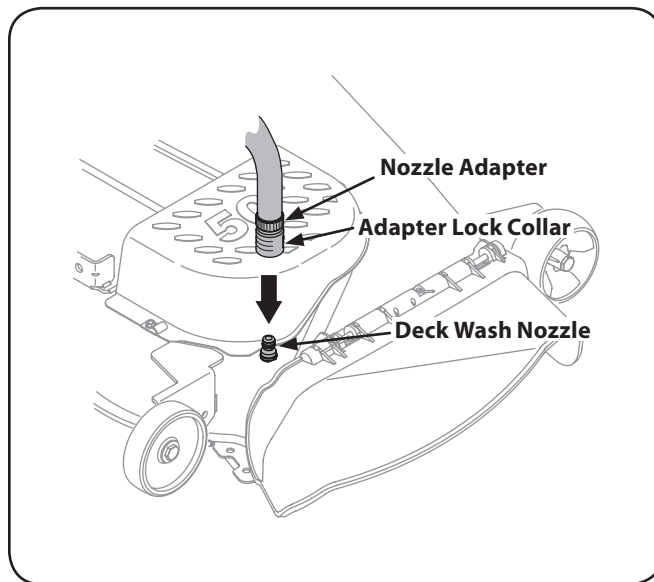

Figure 6-2
3. Attach the hose coupler to the water port on the left of your deck surface. See Figure 6-2.